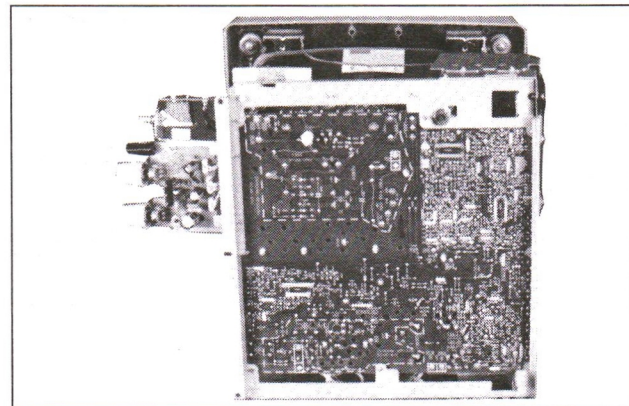

Fig. 5
4. Withdraw the main P.B. (shown in Fig. 5.)